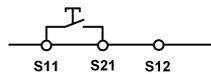

Fig. 3:
- The start circuit must be wired corresponding to the application according to Fig. 3 or Fig. 4.
Wire the start circuit according to the examples in Fig. 3 or 4 to set the starting behavior.